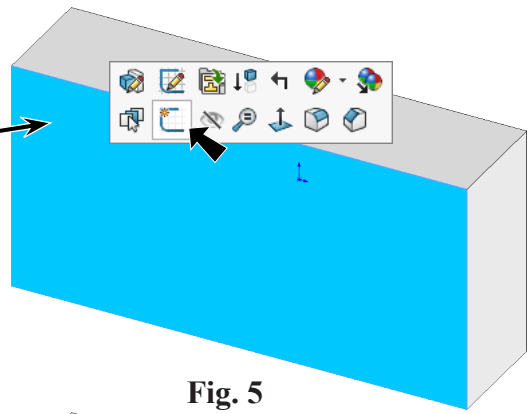

Fig. 5
Step 1. Click the **front face** and click **Sketch**  on the context toolbar, **Fig. 5**.